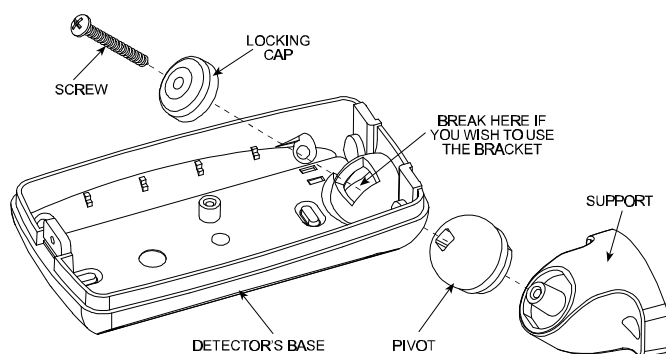

Figure 5. Attaching the Bracket
- Punch out the large knockout in the round bulge at the top part of the base (see Figure 5)
4th. Assemble the bracket as shown in Figure 5.